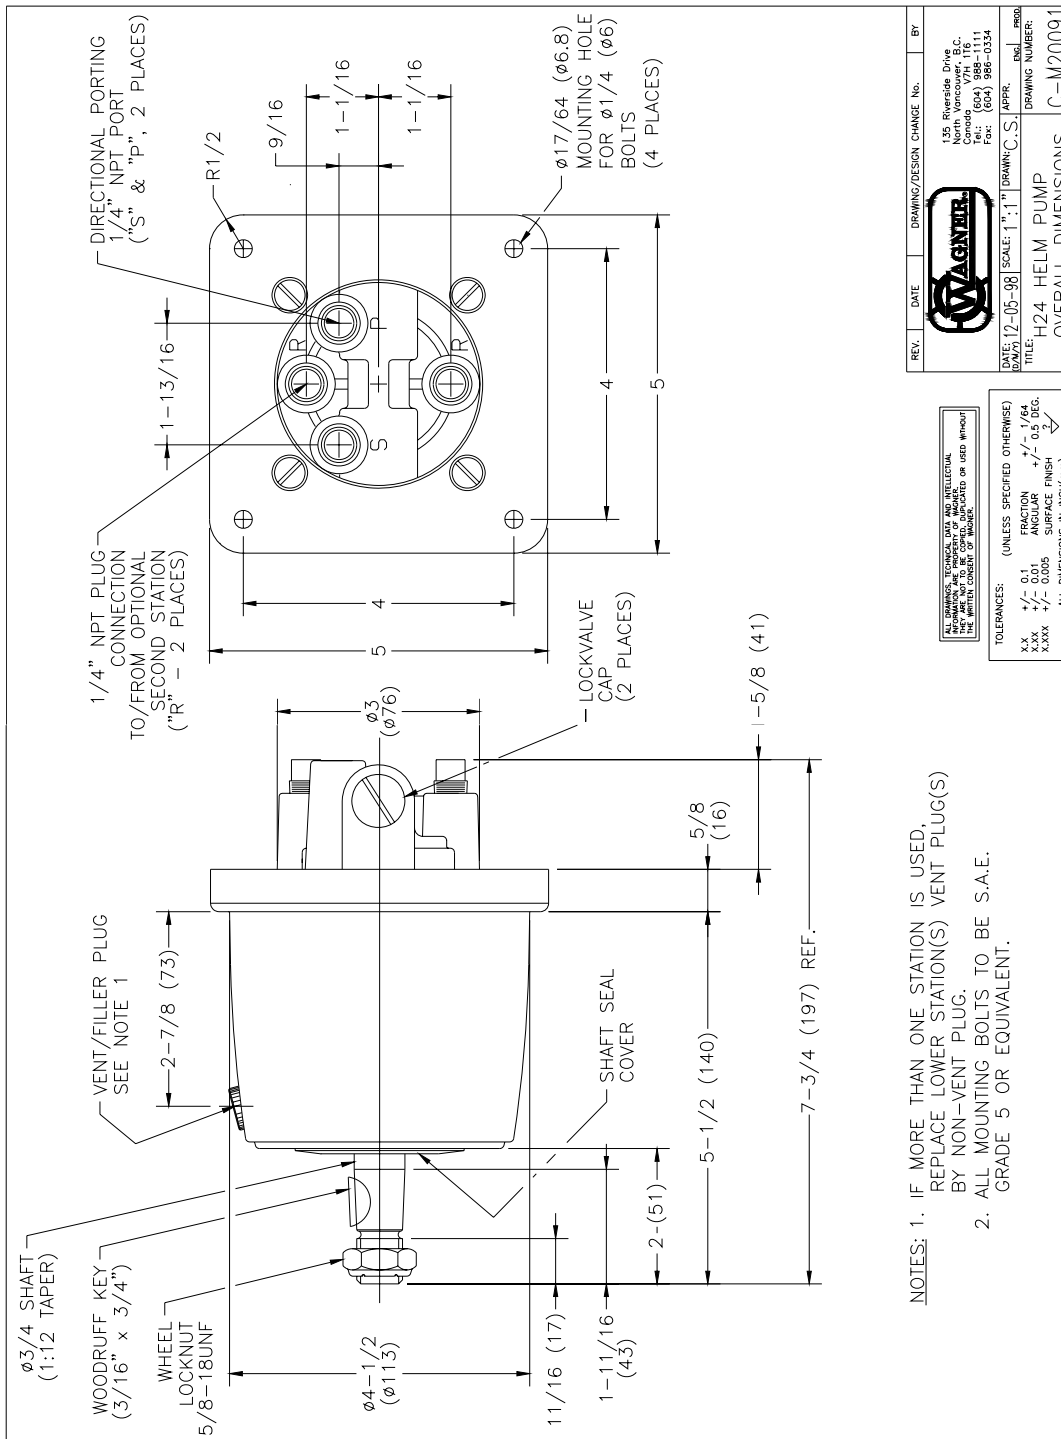

Figure 1 – B24 Helm Pump Overall Dimensions
- Refer to Figure 1 for overall dimensions and detailed mounting and connection information.